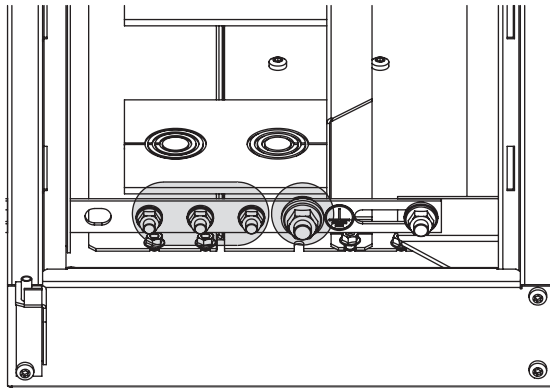

Figure 118. Positions of the earthing cables
Each unit is fitted with earthing busbars that run longitudinally in the lower front part of the unit. These busbars must be connected together as shown in chapter 5.3.1. The station earthing system must be connected to the end unit of the switchgear. If the switchgear consists of more than 8 units, it is advisable to connect the station earthing system to both end units. The external station earthing connection point inside the unit is shown in Figure 118. All the apparatus is connected to the earthing busbar via the switchgear housing. The interconnection between units is capable of carrying the rated short-time and peak withstand current for the earthing circuit.
d) The earthing cables can be mounted with bolts, as shown in Figure 118. The M12 bolt, marked with the earthing symbol, is reserved for the external station earthing system, the other M10 bolts (3 pieces) for the cable sheaths or other earthing systems.